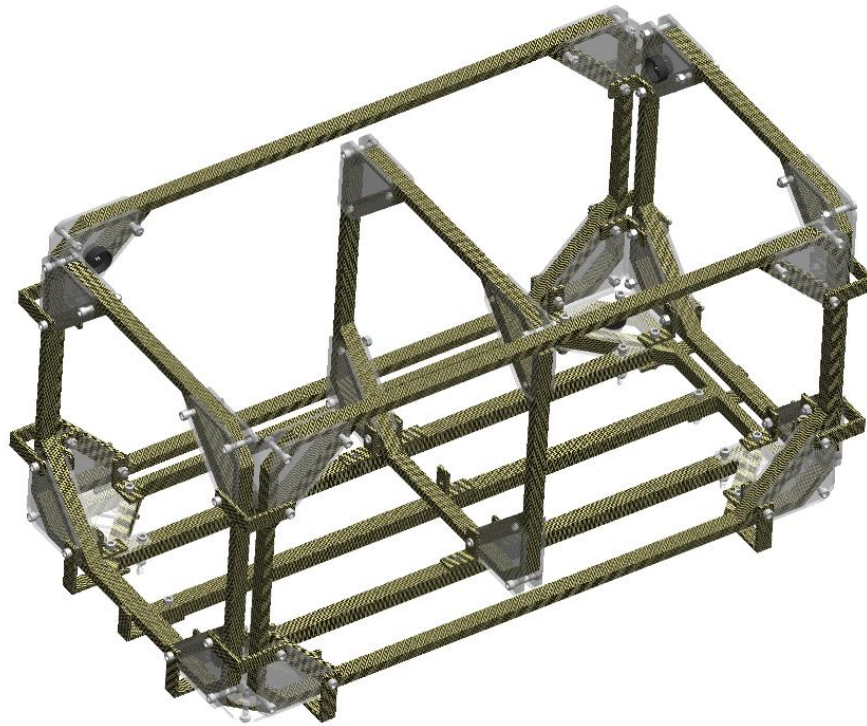

Figure 1.11
12. Do not move the middle coil from its centered configuration. Using the two bolt holes in the middle coil closest to the bottom coil, bolt a pair of Inner Angle Brackets (PN THOA002) to each hole in the middle coil using two 2" 3/8-16 bolts (PN OUTS002), and two 3/8-16 nuts (PN OUTS004) as shown in Figure 1.11. Center a third Inner Angle Bracket on the Cube Support Beam (PN THCU002) as shown in Figure 1.11. The sides of the Inner Angle Brackets should be flush to the sides of the Cube Support Beam or Angled Cube Support Beam (PN THCU001) that they are resting on. Ensure the middle coil is still in its centered configuration, if so, epoxy the bottom faces of the Inner Angle Brackets to their respective support Beams in the same configuration as shown in Figure 1.11. **DO NOT epoxy the Inner Angle Brackets to the Middle Coil, ONLY epoxy them to the Angled Support Beams.**